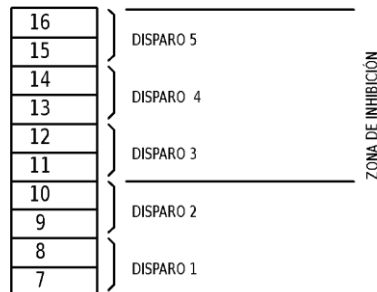

Fig. 6
Also, if inhibition is activated, no response will be detected in tripping outputs 3, 4 and 5; the inhibition only affects the eighth input (#42). Figure 6 shows a terminals outline.
Each logic board has an inhibition (INHIBICIÓN) jumper assigned to it. If jumper is in yes (SI) position, the arc light enters from the eighth input (#42), produces electrical excitation of only the first two trips (1 and 2, see fig. 6), not the rest; nor a light signal is transmitted on the light arc repeater from the optical fiber. When the jumper is in the NO position, five trips are electrically excited and the arc repetition is normally transmitted. The rest of the inputs are not affected by this function when operated without inhibition.